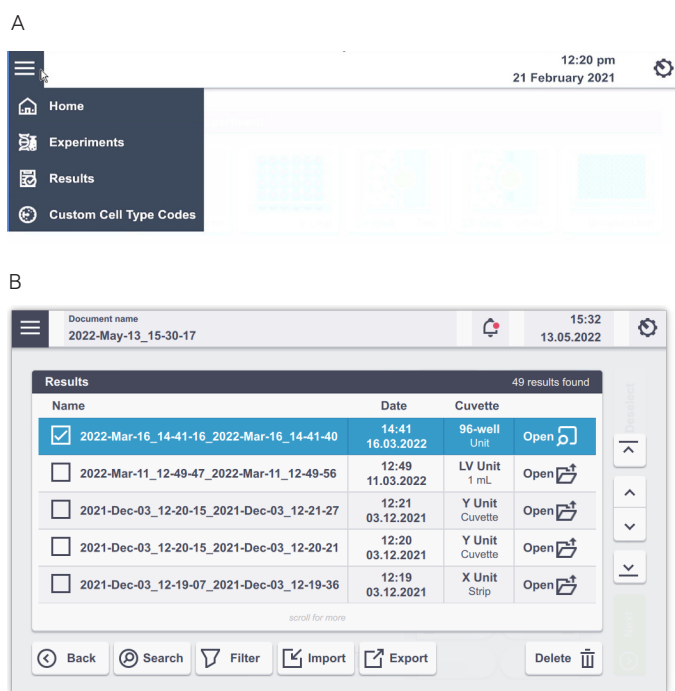

Figure 2.54: (A) To import experiments go to “Experiments” and (B) select “Import” to transfer pre-defined experiments to the 4D-Nucleofector® System.
- Go to “Experiments” via the accordion menu (Figure 2.54) and select and import the required experiment. A message “Import completed successfully” will appear to verify that your new experiment is now saved onto the 4D-Nucleofector® System.
- Select the result to be printed (Figure 2.54) and press “Export”